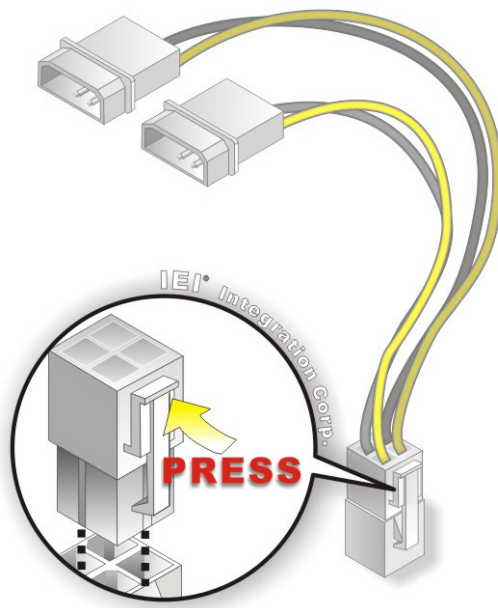

Figure 4-17: Power Cable to Motherboard Connection
Step 2: **Connect the Power Cable to the Motherboard.** Connect the 4-pin (2x2) Molex type power cable connector to the power connector on the motherboard. See Figure 4-17.